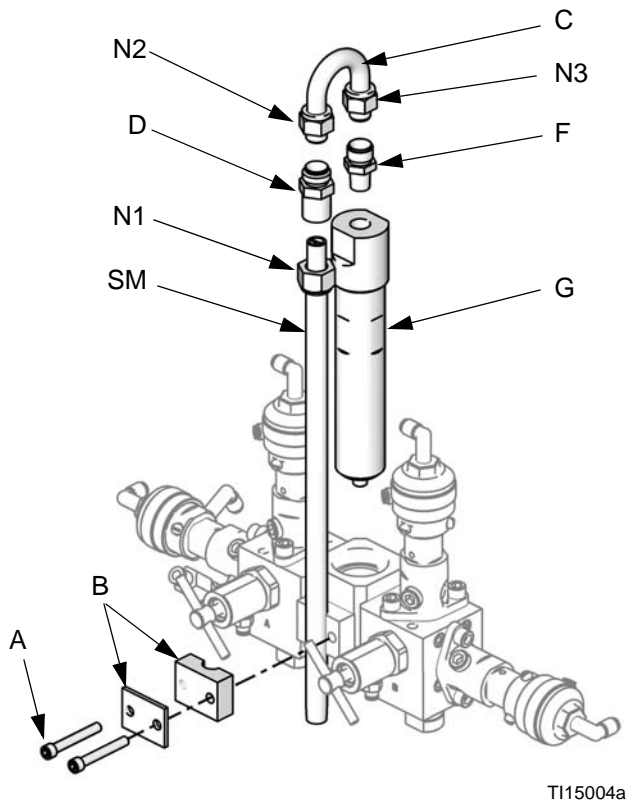

FIG. 12. Disassemble Integrator and Static Mixer
1. Remove the screws (A) and static mixer bracket assembly (B). See FIG. 12.
2. Loosen the static mixer nut (N1). Remove and retain the static mixer (SM).
3. Loosen the u-tube nuts (N2 and N3). Discard the u-tube (C) and the static mixer fitting (D).
4. Remove and retain the 1/4 npt(m) fitting (F). Remove the integrator (G) and discard.